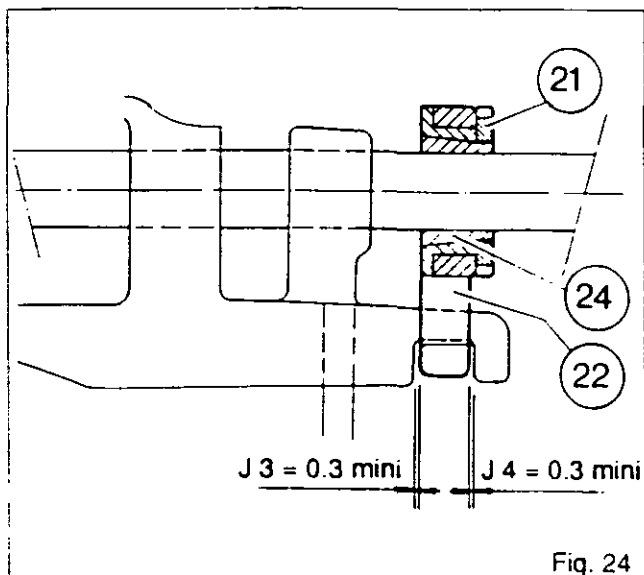

Fig. 24
85. Set clearances  $J3$  and  $J4$  to be of equal size (min. = 0.3 mm) so that the mechanical locking gate (22) can operate freely (Figs.24 and 25)